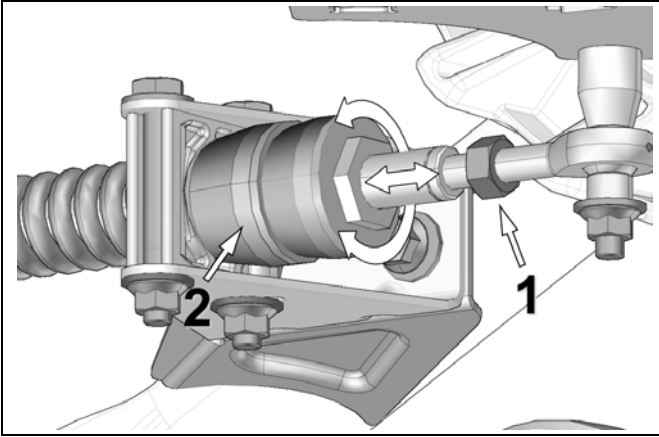

Figure 16
- Loosen jam nut (1). Rotate the stabilizing arm to adjust length of rod end so that no pressure is applied to the rubber cone. (2). Refer to Figure 16.